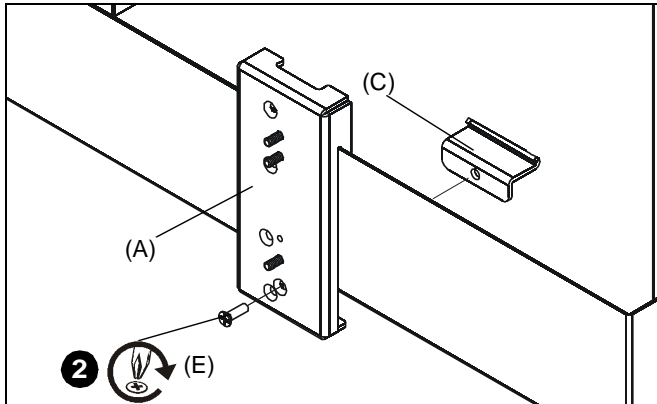

Figure 4
2. Secure horizontal hooks bracket (C) to main bracket (A) by installing #10-24 x 5/8" Phillips head machine screw (E) through holes in both brackets. (See Figure 4)